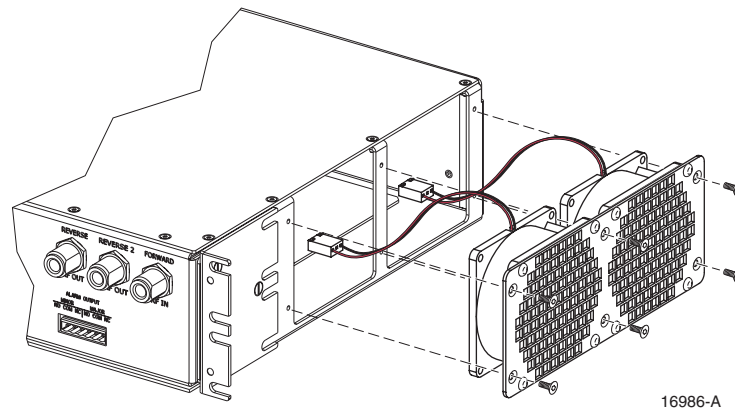

Figure 5-2. Host Unit Fan/Grill Assembly Removal
4. Remove the six flat-head screws (requires TORX screwdriver with T10 bit) that secure the fan/grill assembly to the right side of the HU enclosure as shown in Figure 5-2. Save screws for reuse.
11. Secure the fan/grill assembly to the side of the enclosure (see Figure 5-2) using the six flat-head screws removed in step 4.